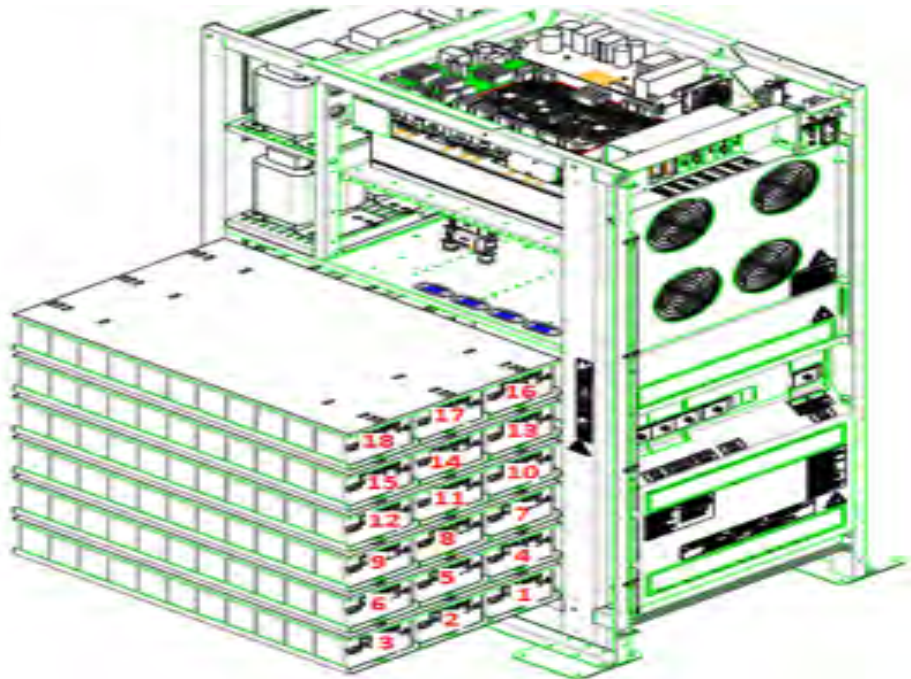

Figure 28 – 12/14Ah 12V battery trays side view INGENIO PLUS 60kVA
- 1) Remove the 6 screws to open the side panels (right/left) and access the battery trays (Total shelves 6 and each one is composed of three battery drawers **Fig 28,29**)